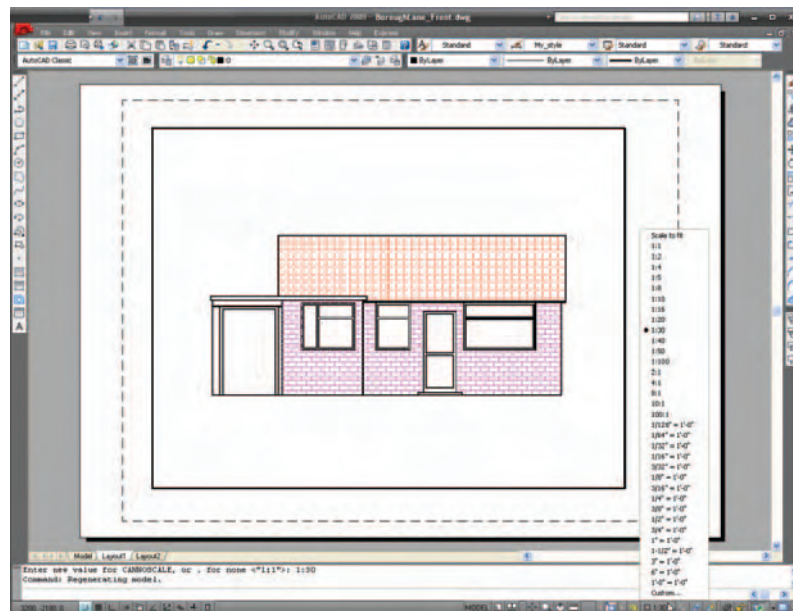

Fig. 21.2 First example – annotation scaling. The front view of a bungalow drawn to a scale of 1:30
1. Figure 21.2 shows a scale **1:30** front view of a bungalow in a **Paper Space** window in the **AutoCAD Classic** workspace.
2. *Click* the down-pointing arrow in the right-hand end of the status bar and, in the menu which appears, note the drawing has been constructed to scale of **1:30** (Fig. 21.2).